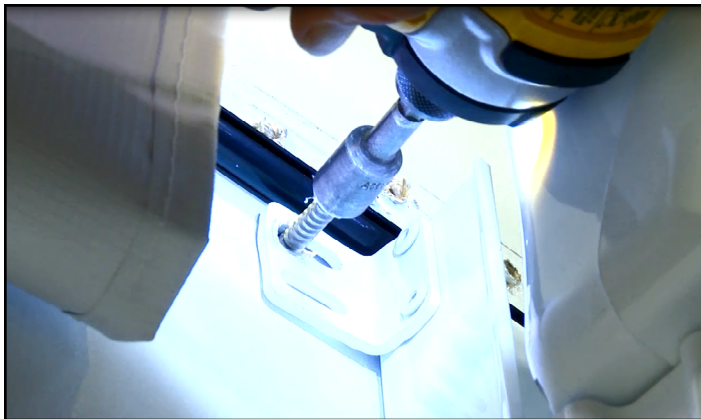

Fig.9
19. Secure the upper section of the drive mount arm to the unit with 2 of the provided #14 x 1 1/4" screws (Fig.9).